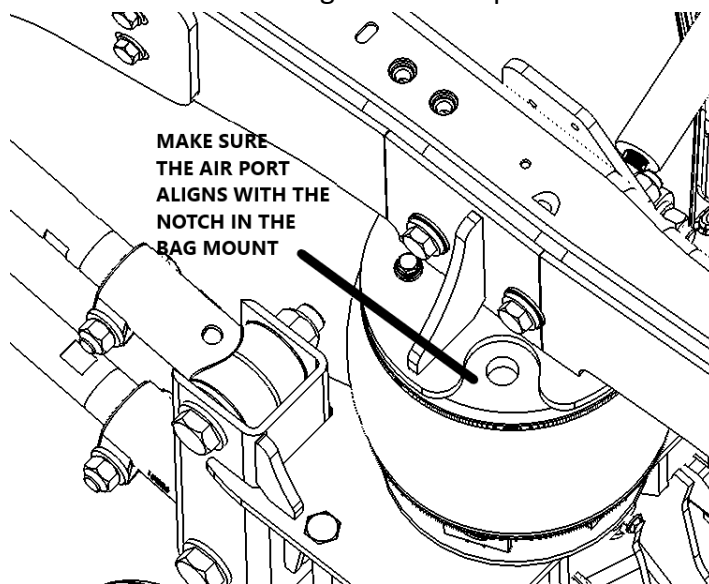

Figure 17
- 7:** Mount the air bags to the upper bag mounts with 3/8" x 1 1/4" – 16 bolts, lock washers and flat washers. Be sure to align the air port with the notch in the bag mount. Install the 3/4" x 3/4" 90° air fitting into the air port on the air bag. See figure 17.